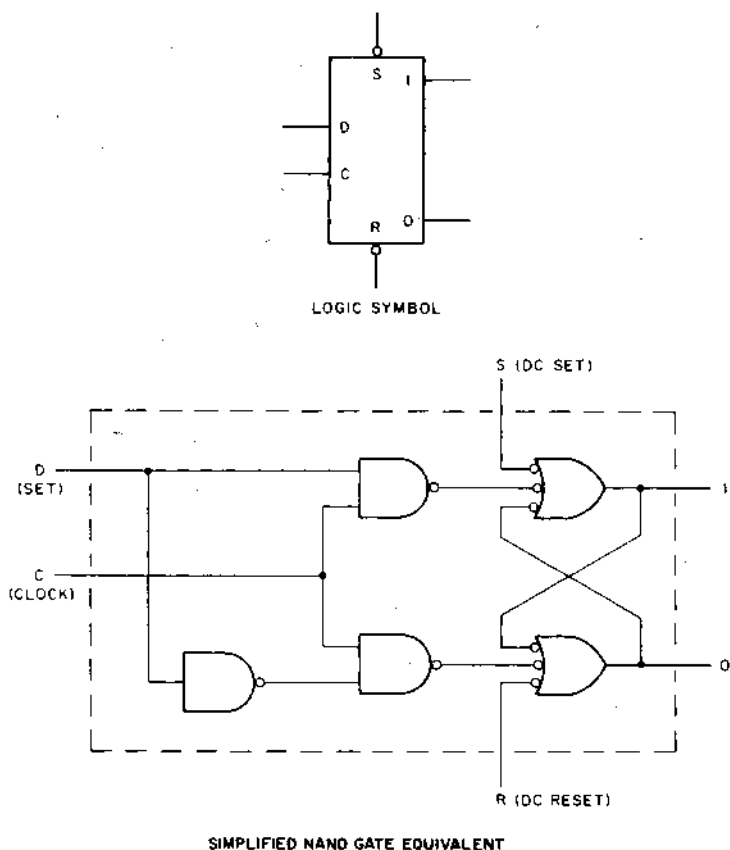

Figure 8. D Type General Purpose Flip-Flop
D Type Flip-Flop: The first of these is the D type flip-flop shown in Figure 8. In this element, a single-ended data input (D) is connected directly to the set gate input. An inverter is provided between the input line (D) and the reset input. This ensures that the set and reset levels cannot be high at the same time.